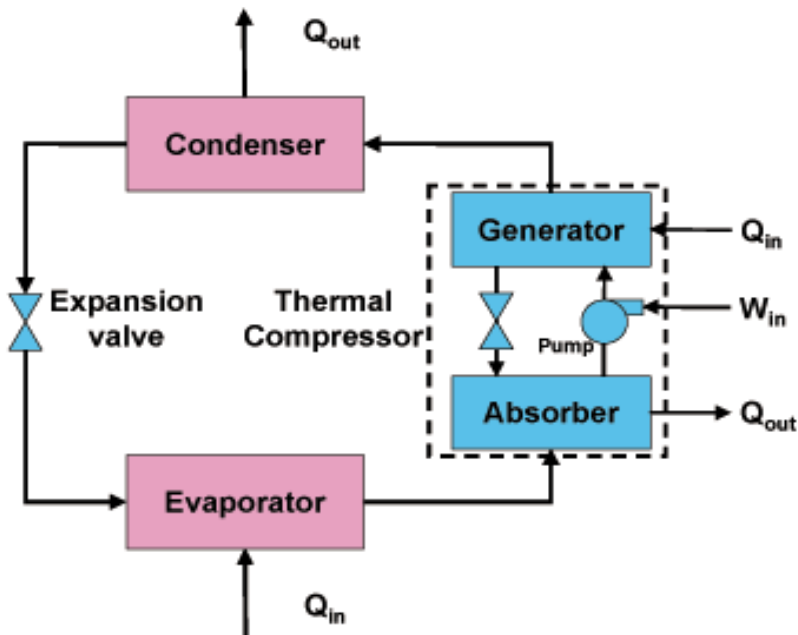

Figure 2-8 Process Schematic of an Absorption Chiller/Refrigeration System
- A process schematic of an absorption chiller is shown in Figure 2-8